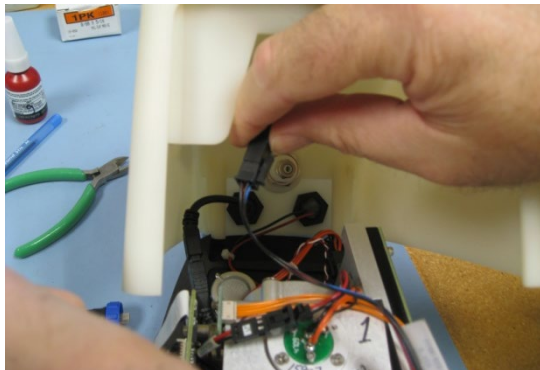

Figure 26. Disengaging the power harness.
- 3 Disengage the power harness from the instrument. The power harness is identifiable by its 4-pin connector and the blue, black and red wires (see Figure 26).